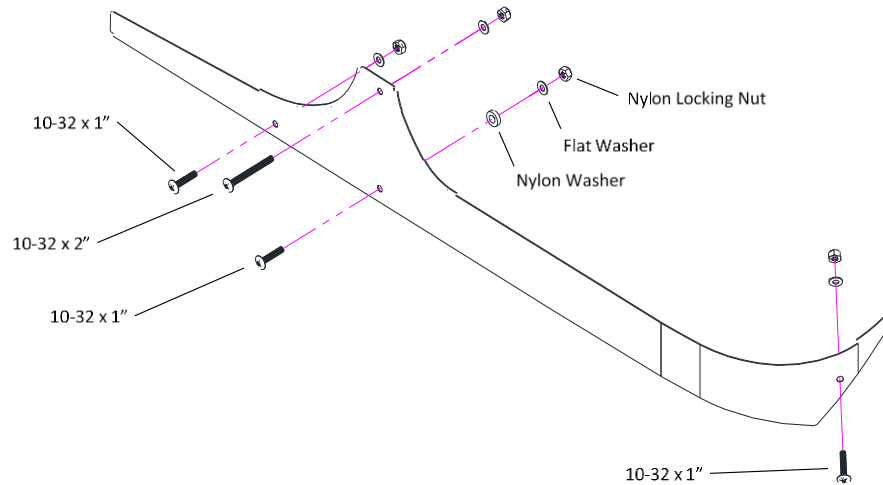

Fig. 1
1. Peel the plastic away from the bolt holes and use tape or silicone to hold the nylon washer in place behind the lower middle hole (Fig. 1)
8. Install the fender guard using the hardware as shown in (Fig. 1) and snug but do not fully tighten. Take care to avoid pressing the 3M tape against the hood during this.
11. Install the remaining hardware as shown in (Fig. 1) and tighten all hardware.